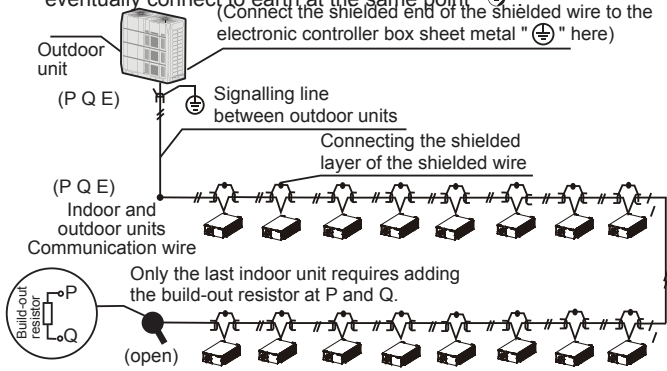

Figure 7.6
- The communication wiring between the indoor and outdoor units should be connected one unit after another in a daisy chain from the outdoor unit to the final indoor unit. And the shielded layer must be properly grounded, and a build-out resistor must be added to the last indoor unit to enhance the stability of the communication system (see Figure 7.6).